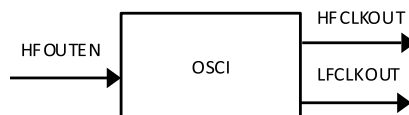

Figure 3.14. CrossLink OSCI Component Symbol
- Figure 3.14, Table 3.6 and Table 3.7 below show the OSCI definitions